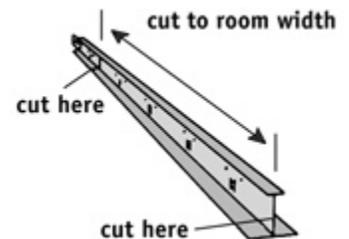

Figure 13 If the room is less than 12' across, cut the main tee to the width of the room less 1/8" for the thickness of the wall angle.
e) When main tees are installed in rooms less than 12' across, cut the main tee to the exact measurement of the room, allowing 1/8" for the thickness of the wall angle (Fig. 13).